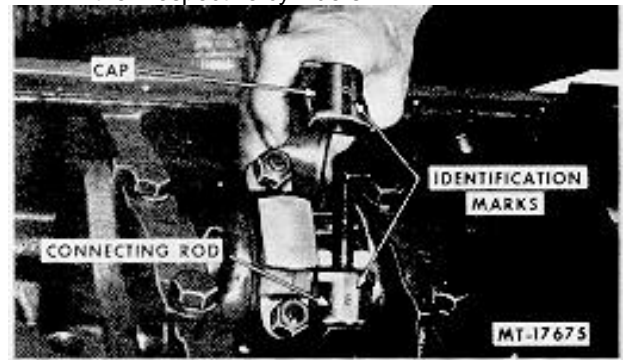

Fig. 56 Connecting Rod Removal
57. Remove the cap and push the connecting rod and piston assembly from the cylinder bore (Figs. 56 and 57). Replace the cap and the bearing inserts on the rods so the numbered sides match. The assemblies are numbered so they can be installed in their respective cylinders.